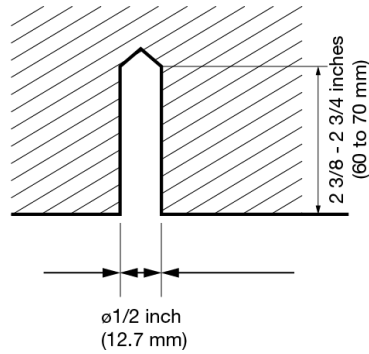

Fig. 3
1. Install the bolts into the ceiling in a location strong enough to hang the unit. Mark the bolt positions using the installation template. With a concrete drill, drill for 1/2 inch (12.7 mm) diameter holes (Fig. 3).